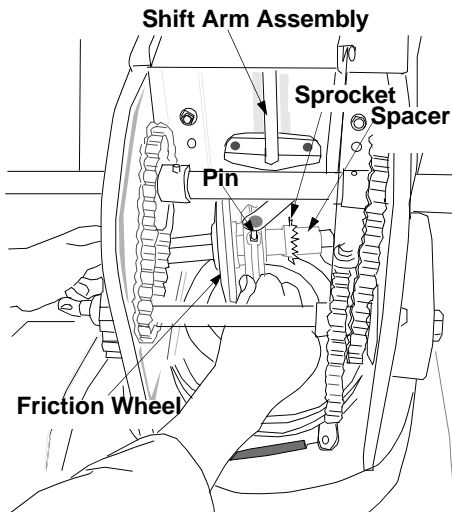

Figure 24
- Holding the friction wheel assembly, slide the hex shaft out of the left side of the unit. The spacer on the right side of the hex shaft will fall and the sprocket should remain hanging loose in the chain. See Figure 24.
- Insert the pin from the shift arm assembly into the friction wheel assembly and hold assembly in position. Refer to Figure 24.